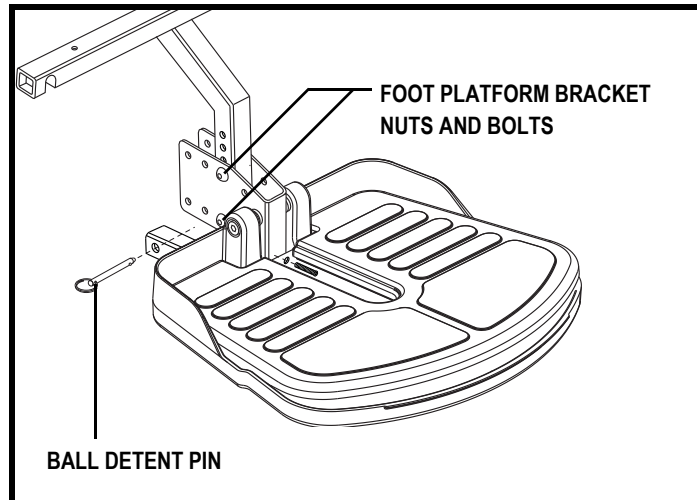

Figure 20. Foot Platform Height Adjustment
1. Remove the nuts and bolts from the foot platform bracket. See figure 20.